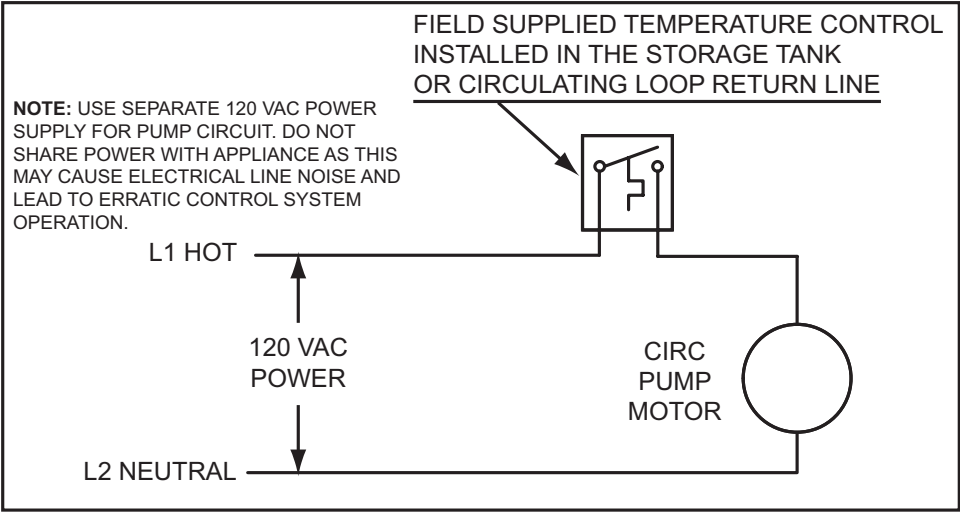
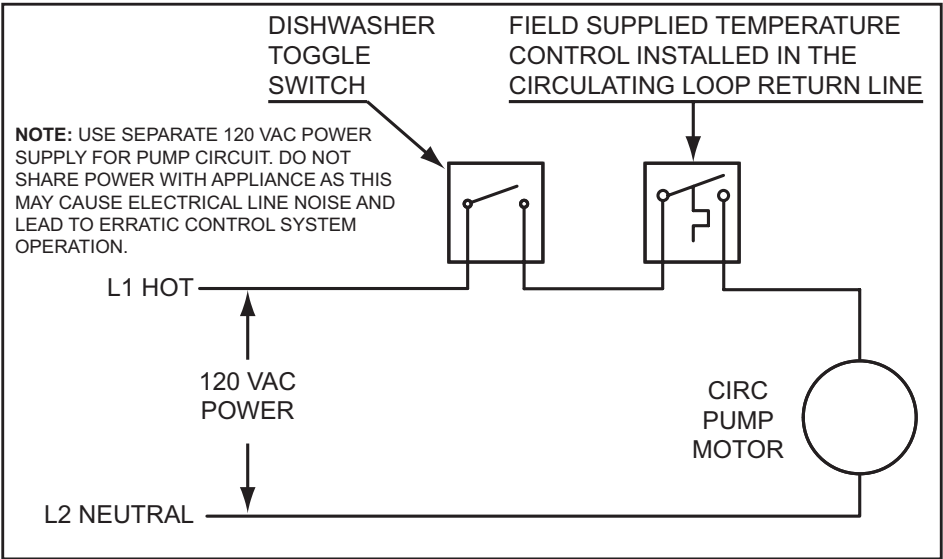

Figure 64
Figure 65
6. If a pump is being installed between a water heater and storage tank or on a building recirculation loop wire according to Figure 64 on page 67.
7. If a pump is being installed in a recirculation loop between the water heater and a commercial dishwasher wire according to Figure 64 or Figure 65 on page 67.